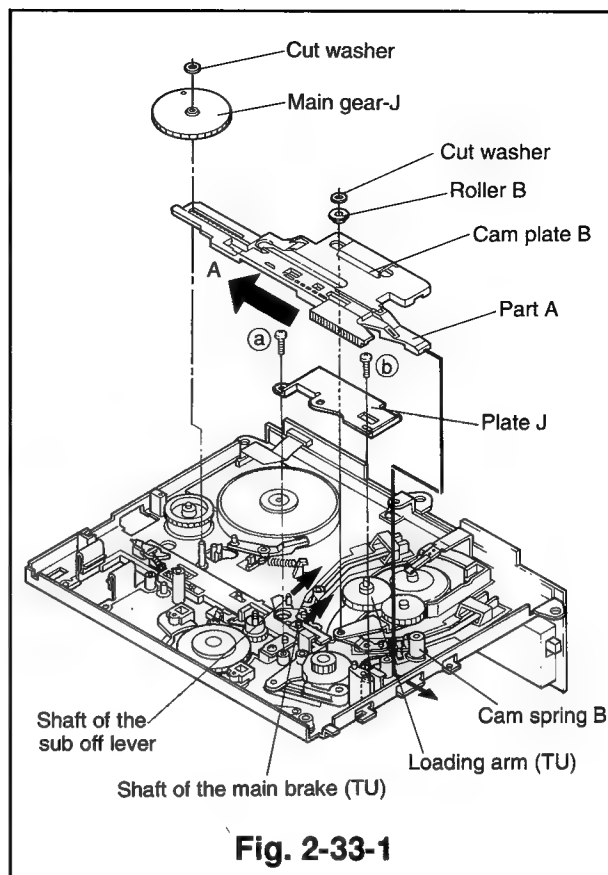

Fig. 2-33-1
- ① Remove the two screws (a) and (b) to remove the plate J. (Fig. 2-33-1)
- ② Take off the cut washer fixed to the shaft of the loading arm (TU) to remove the roller B.
- ③ Remove the reel belt. (Refer to Para. 2-28 for the removal method.)
- ④ Remove the belt pulley. (Refer to Para. 2-28 for the removal method.)
- ⑤ Remove the loading motor assembly (which holds the motor holder). (Refer to Para. 2-29 for the removal method.)
- ⑥ Remove the main gear J. (Refer to Para. 2-30 for the removal method.)
- ⑦ Slide the cam plate B to the left (the direction shown by the arrow) to remove it.
- ③ Passing part A of the cam plate B under cam spring B insert it into the hole on the side of the main plate, as shown by the continuous line. (Refer to Fig. 2-33-1)
- ④ While keeping the rear section of cam plate B raised, align the cam plate B and the cam gear R so that the ○ marks align with each other as shown in Fig. 2-33-3 (Fig. A). Still keeping the rear of cam plate B raised, slide it to the right until the △ marks on cam plate B and cam gear R align, refer Fig. 2-33-3 (Fig. B). From this position lower the rear of the cam plate B unto the already aligned loading gears TU and SP, refer ② above. Shift the sub off lever and the main brake TU in the directions shown by the arrows to install them. (Refer to Fig. 2-33-1)
- ⑤ Fix the roller B to the shaft of the loading arm (TU) and secure it with the new cut washer.
- ⑥ Install the plate J and secure it with the two screws (a) and (b).
- ⑦ Install the main gear J. (Refer to Para. 2-30 for the installation method.)
- ⑧ Install the loading motor assembly (which holds the motor holder). (Refer to Para. 2-29 for the installation method.)
- ⑨ Install the belt pulley. (Refer to Para. 2-28 for the installation method.)
- ⑩ Fasten the reel belt. (Refer to Para. 2-28 for the installation method.)